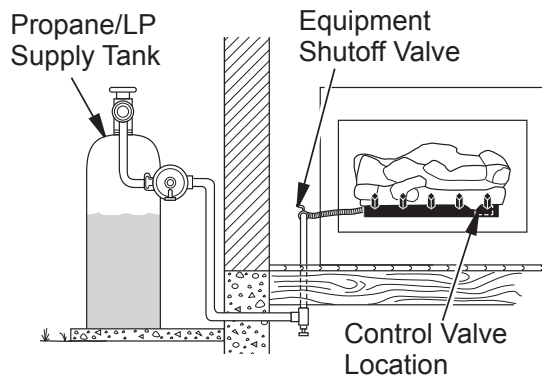

Figure 15 - Checking Gas Joints (Propane/LP Only)
3. Check all joints from gas meter to equipment shutoff valve for natural gas or propane/LP supply to equipment shutoff valve for propane/LP (see *Figure 15 or 16*). Apply noncorrosive leak detection fluid to all joints. Bubbles forming show a leak.
4. Check all joints from equipment shutoff valve to gas valve (see *Figure 15 Or 16, Page 15*). Apply noncorrosive leak detection fluid to all joints. Bubbles forming show a leak.